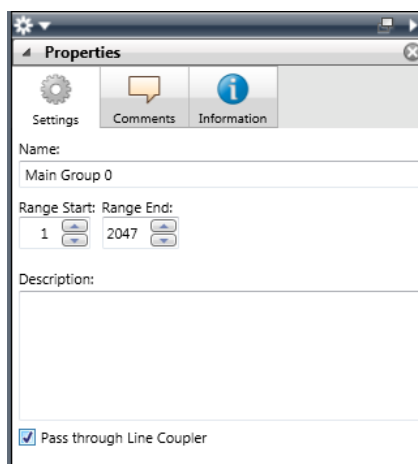

Figure 148: Setting the Pass through Line Coupler option.
1. Enable the switch **Pass through line couplers** option in the ETS4 group address or group range options, as shown in Figure 148. If this switch is set, the couplers will forward the group addresses towards the main line.